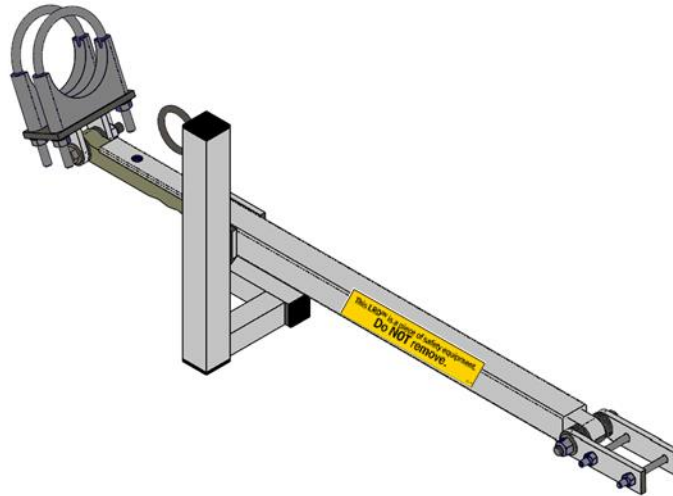

FIGURE 2-2 (4 Step LRD™)
- 13) TCG-2000 gangways can be equipped with an **optional** pivoting outboard upright and cage leveling mechanism (see **FIGURE 2-2**). Mounted on the upper half of each left and right pivoting outboard upright, the cage leveling mechanism consists of back-to-back channels: one on the gangway fixed upright and one on the pivoting upright. Mounted between the channels is a thru threaded rod with a series of back-to-back adjustment nuts and washers on both sides of each channel.
iii) LIFT RESTRICTING DEVICE (SEE FIGURE 2-2)
- 1) The SAF-T Cage is either a monolithic or two-piece cage structure that bolts directly to the outboard upright of the gangway. The cage can bolt in either the high or low position as determined by site-specific needs to maintain the required fall protection criteria (see **FIGURE 2-2**).